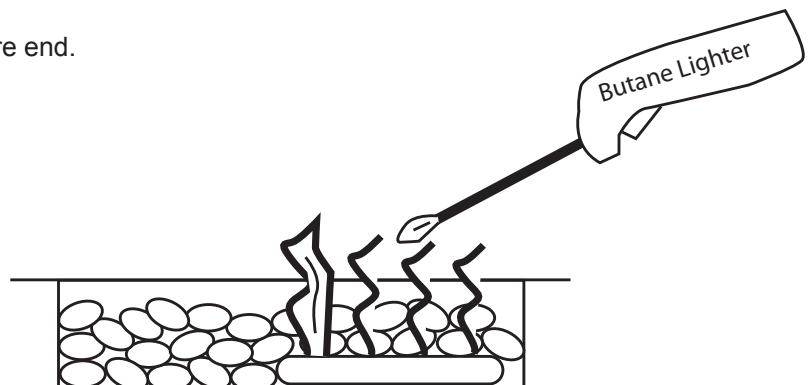

Fig. 11 Lighting fire pit with lighter
2. Light a long match or butane lighter and hold it near the burner (see Fig. 11).